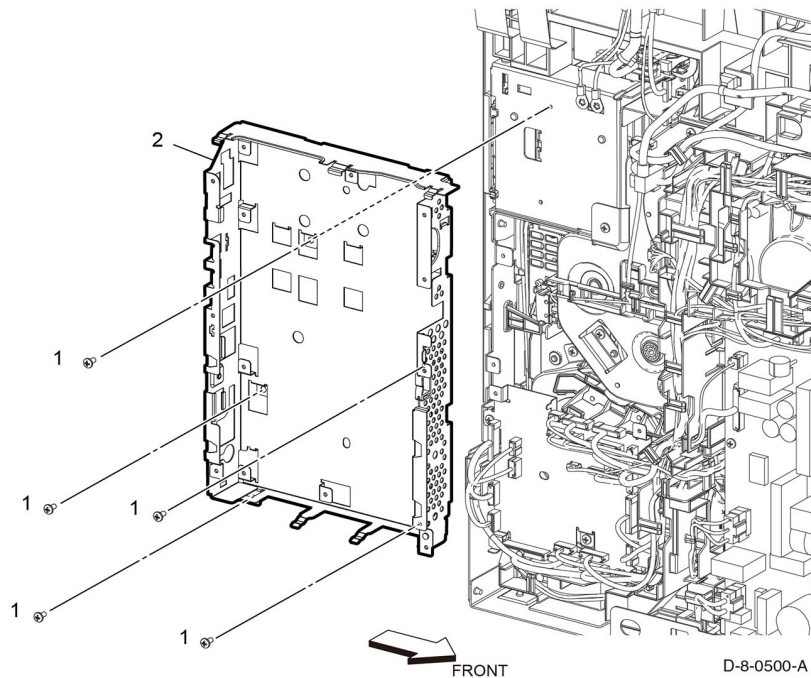

Figure 1 ESS box removal
3. Remove five screws (1), then remove the ESS box (2), Figure 1.